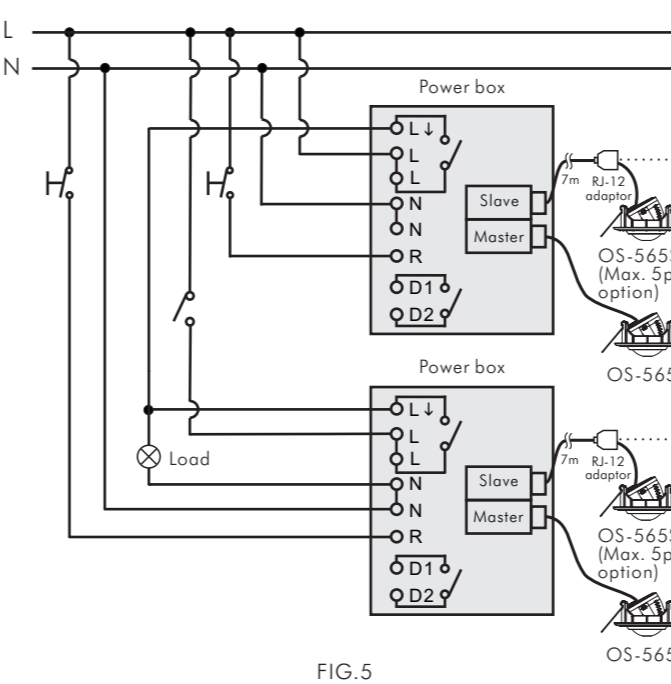

FIG.5
3.3.1.2 One load is controlled by two detectors (See FIG.5).